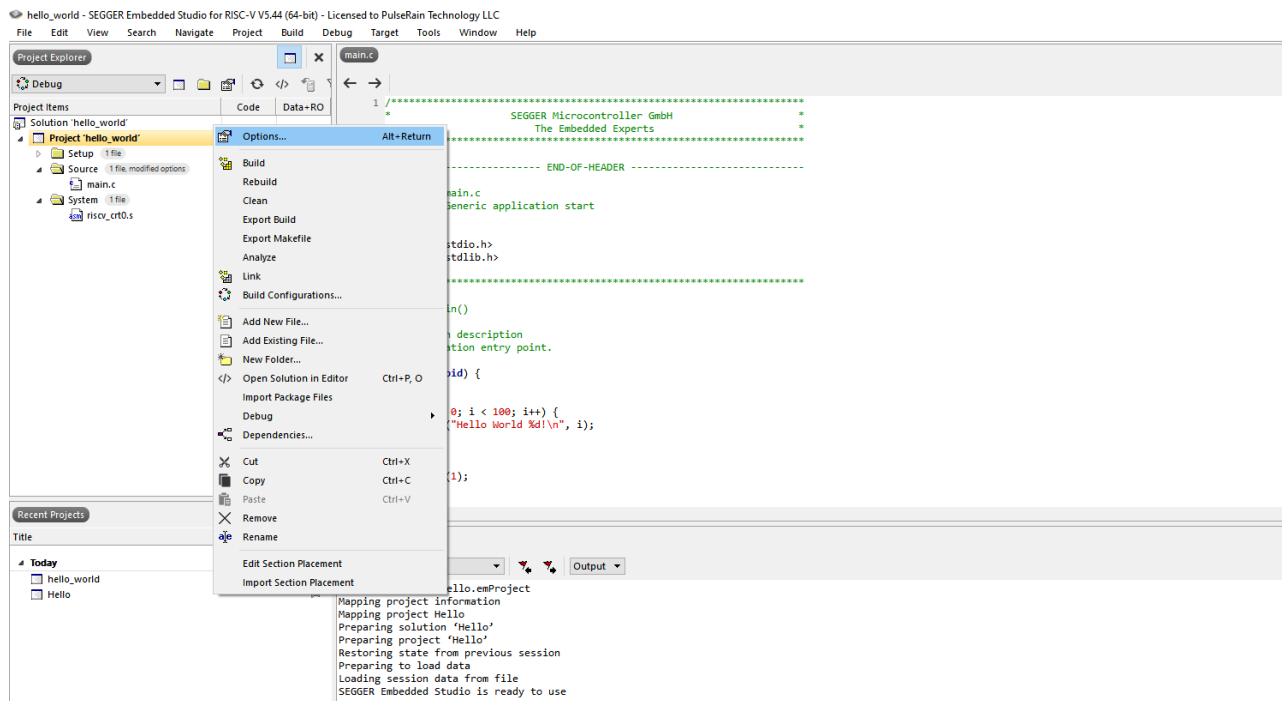

Figure 6-7 Embedded Studio, Project Options
1. Use mouse to right click the "hello_world" project, and choose "Options...", as shown in Figure 6-7.